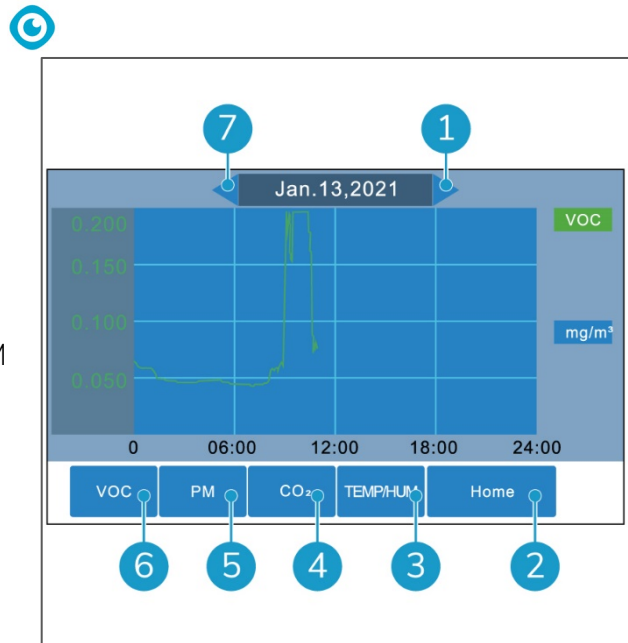

Figure 19
2. The history overview opens (Figure 19).
4. Use the previous button (Figure 19, pos 7) and next button (Figure 19, pos 1) to check the readings of the past days. You can go back up to 5 days.
5. Use the TEMP/HUM button (Figure 19, pos 3), CO2 button (Figure 19, pos 4), PM button (Figure 19, pos 5) and VOC button (Figure 19, pos 6) to switch between
6. Touch the home button (Figure 19, pos 2) to go back to the main screen.